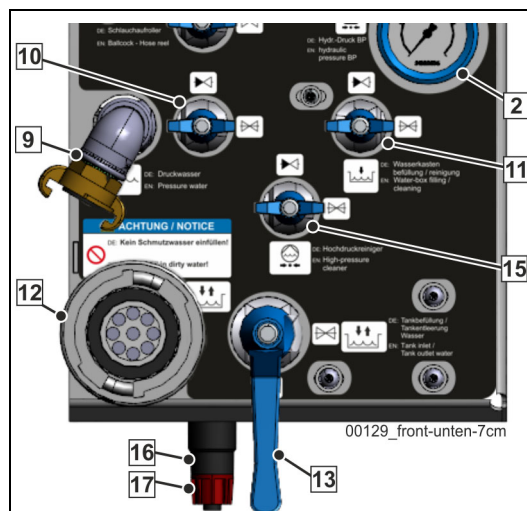

Fig. 433 Supply control
- Loosen the fuse (5.1) **(6.2.10)** on the water case and lock the connection to the water case by switching the ball valve (5) **(6.2.10)**.
- Open the ball valve (15) **(Fig. 433)** and the turn-lock fastener (17) **(Fig. 433)** on the supply unit.
- After draining the pump, close the ball valve (15) (**Fig. 433**) and the turn-lock fastener (17) (**Fig. 433**) on the supply unit.
- Before restarting the HPC, do not forget to switch the ball valve (5) (**6.2.10**) on the water case to the “Operating position”.